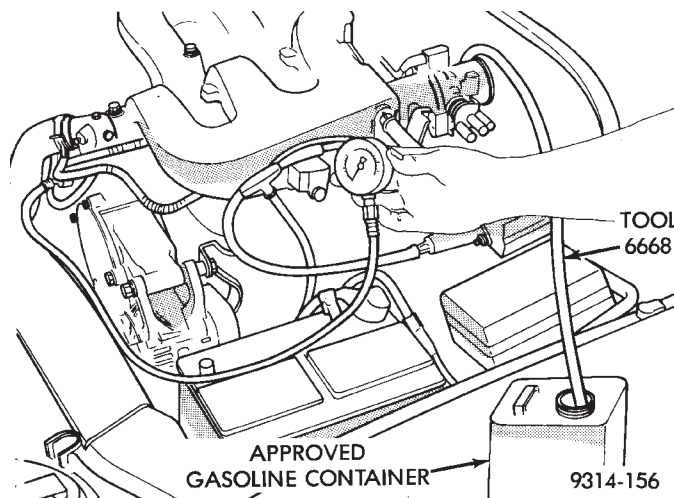

Fig. 13 Fuel Return Line Adapter
- If pressure is still above specifications, remove fuel return hose from chassis fuel tubes (at engine). Attach Fuel Pressure Test Connect Adapter 6668 to the fuel return tube and place other end of hose in clean container (Fig. 13). Repeat test. If pressure is now correct, check for restricted fuel return line. If no change is observed, replace fuel pressure regulator.